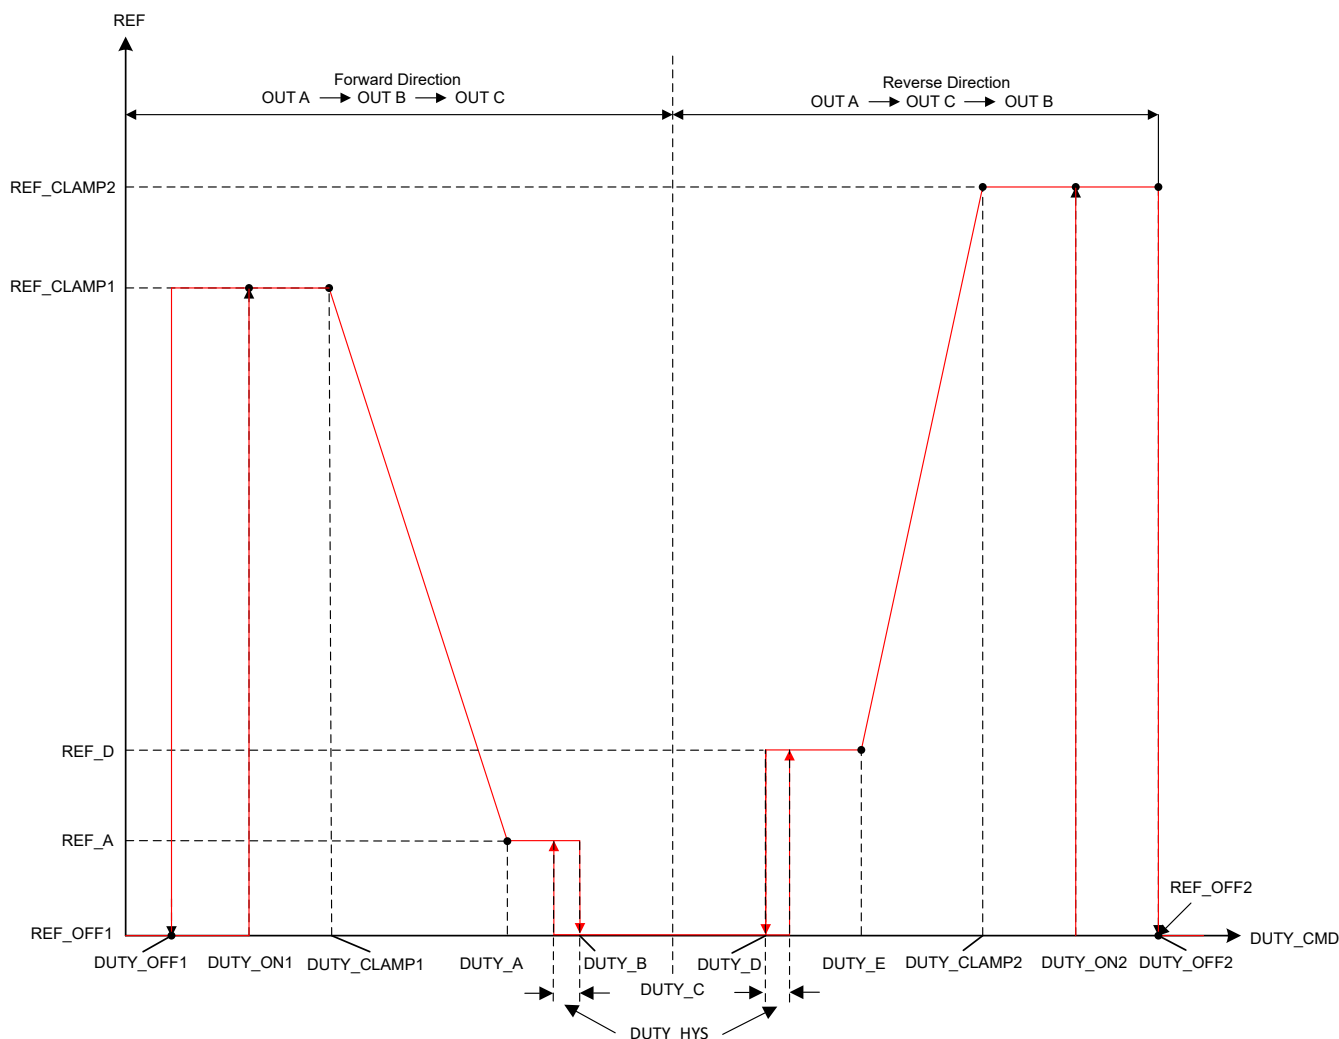

Figure 6-22. Forward Reverse Control Profiles
- DUTY_OFF1 and DUTY_ON1 configures a hysteresis around reference control input REF_CLAMP1 and REF_OFF1 as shown in Figure 6-22.
- DUTY_A configures the duty command for reference REF_A. The reference changes linearly between DUTY_CLAMP1 and DUTY_A. DUTY_A to DUTY_E has to be in the same order as shown in Figure 6-22.
- DUTY_OFF2 and DUTY_ON2 configures a hysteresis around reference control input REF_CLAMP2 and REF_OFF2 as shown in Figure 6-22.